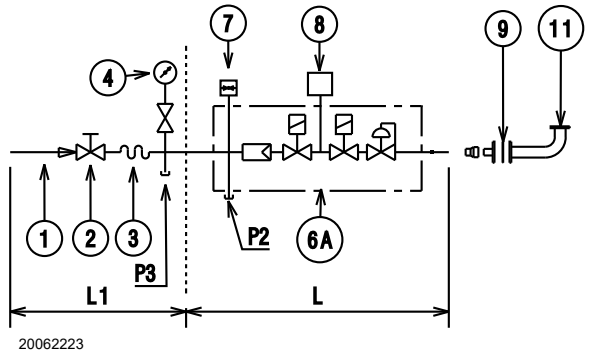
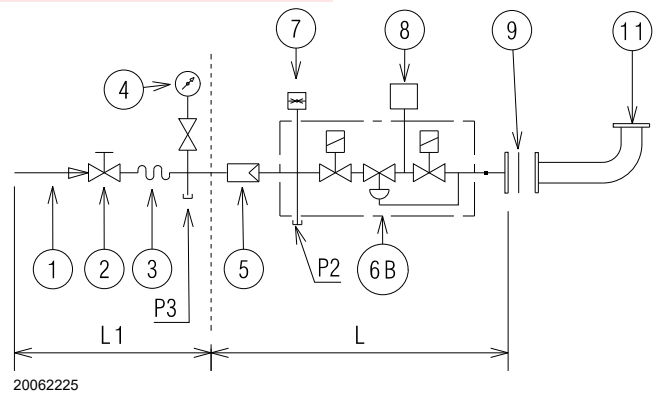
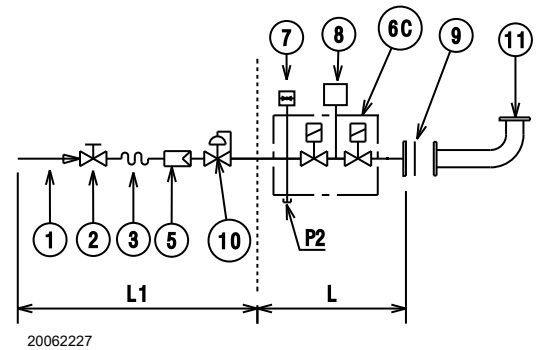
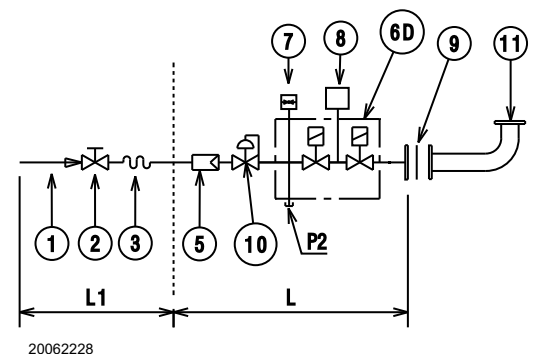

Fig. 23
Fig. 24
Fig. 25
Fig. 26
- In order for self-priming to take place, the screw (3) of the pump must be loosened, see Fig. 24, to bleed off the air contained in the suction pipe.
Key (Fig. 23 - Fig. 24 - Fig. 25 - Fig. 26)